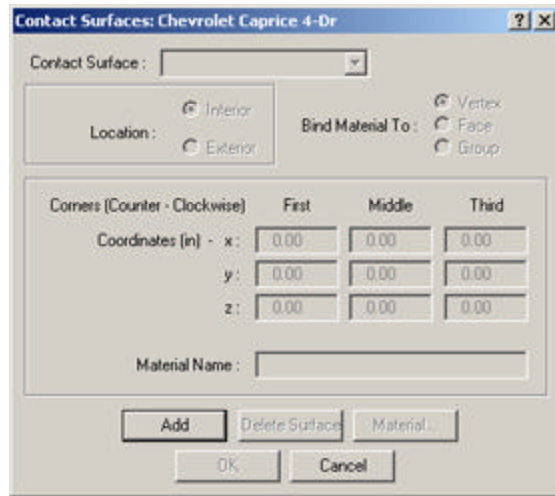

Figure 5-6: Contact Surfaces dialog in Vehicle Editor
- Select *Contact Surfaces*. This brings up the Contact Surfaces dialog box as shown in Figure 5-6.